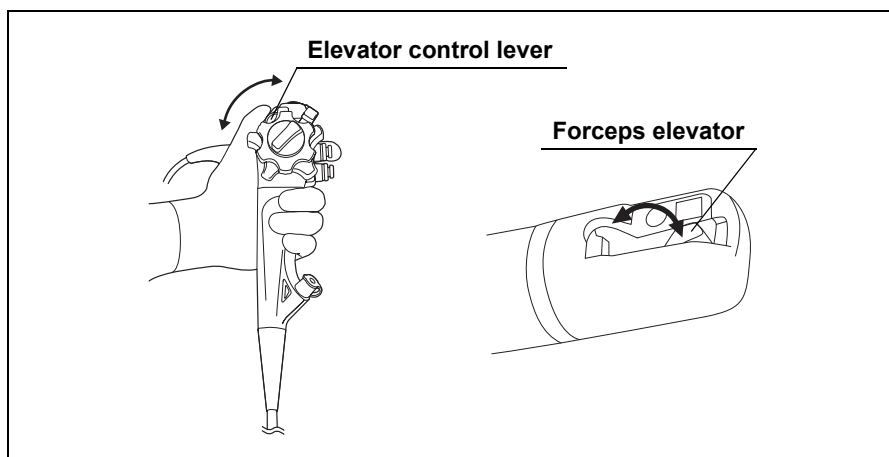

Figure 3.5
2. While observing the forceps elevator at the distal end of the insertion section, slowly move the elevator control lever in the “◀U” direction until the operator feels heavy. Confirm that the lever can be operated smoothly and that the forceps elevator is raised smoothly. Also, confirm that the forceps elevator remains stationary when pushed from behind while holding the elevator control lever stationary (see Figure 3.5).
3. Move the elevator control lever slowly all the way in the opposite direction of the “◀U” direction. Confirm that the lever can be operated smoothly and that the forceps elevator lowers smoothly (see Figure 3.5).